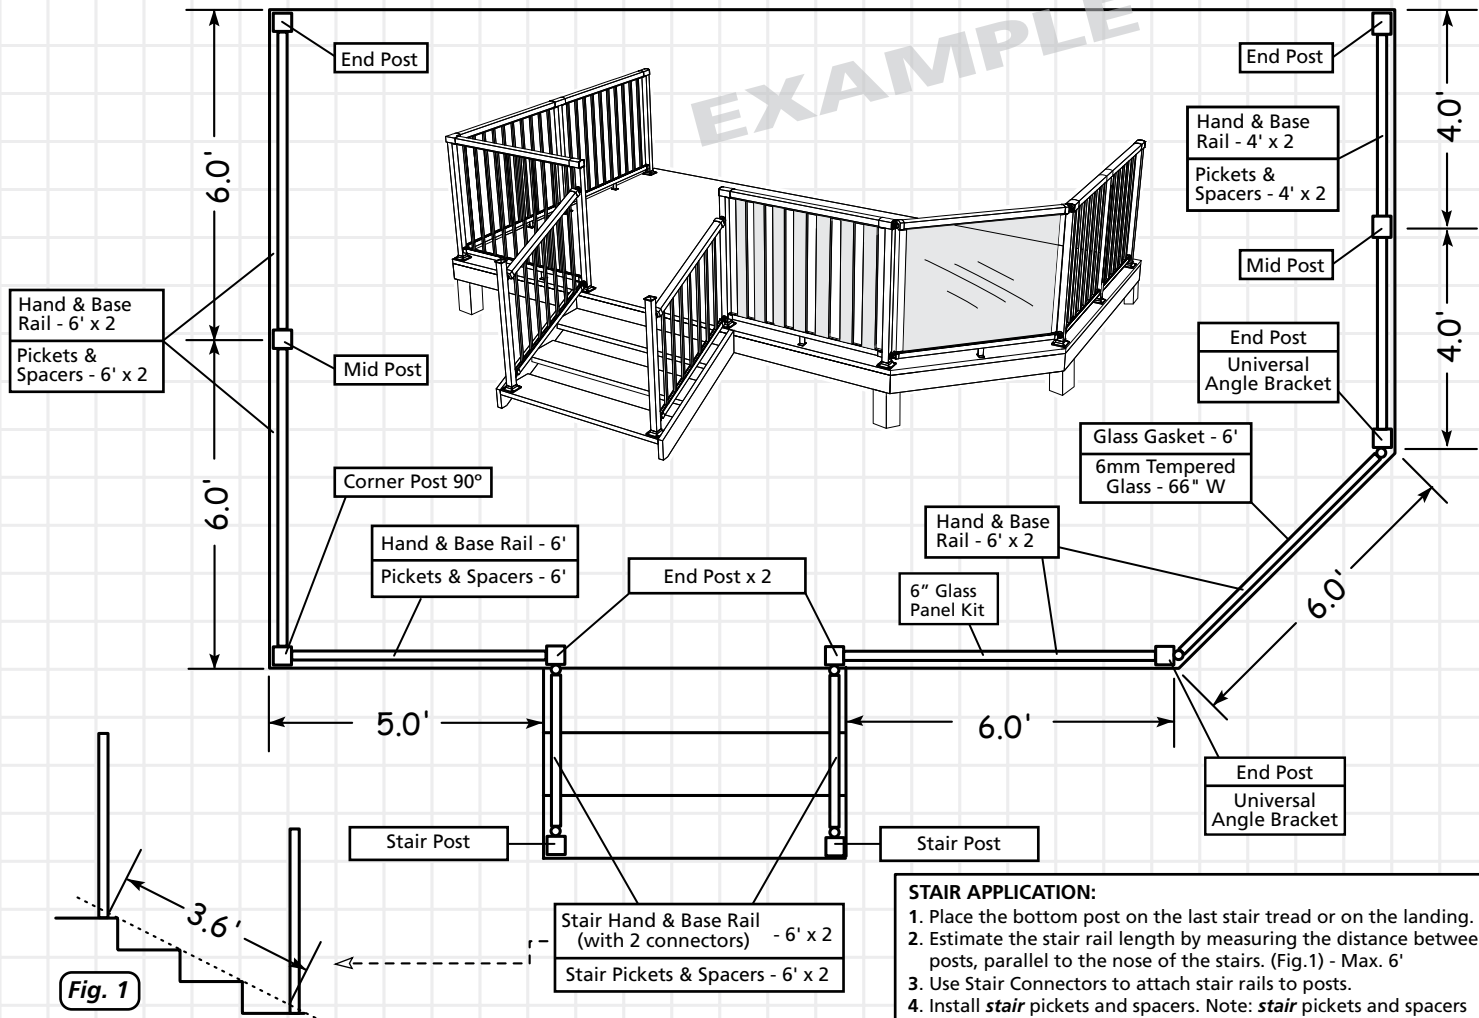

Fig. 1
- Estimate the stair rail length by measuring the distance between posts, parallel to the nose of the stairs. (Fig.1) - Max. 6'